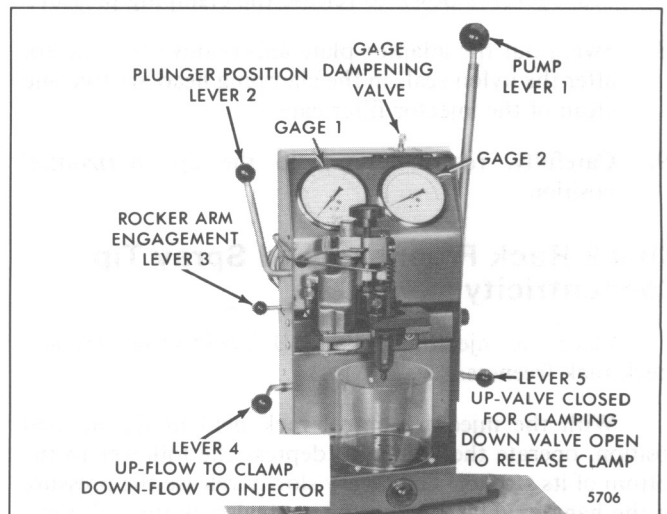

Fig. 35 - Injector in Position for Testing with Tester J 23010-A
1. Clamp the injector properly and purge the air from the system (Fig. 35).
- Clamp the injector properly in Tester J 23010-A and purge the air from the system (Fig. 35).